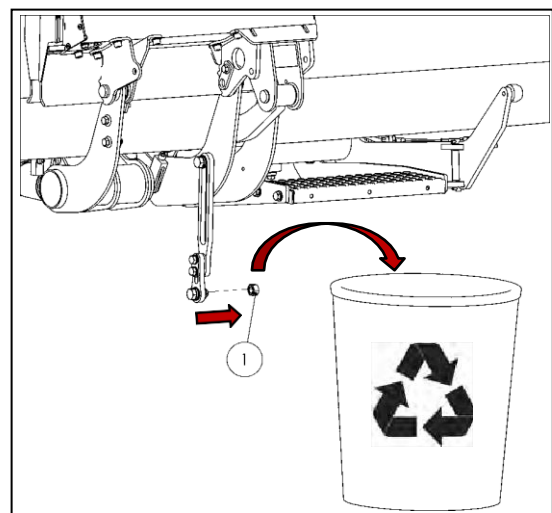

Figure 63
- Remove and properly dispose of the nut on the transport lock (1) (see Fig. 63).